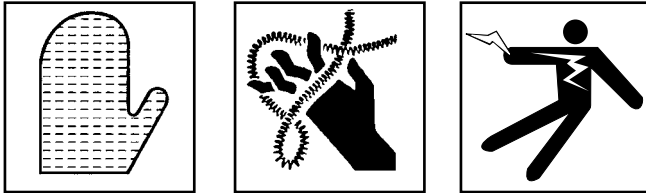

Figure 5 – Cable Adapter Attachment
- Lift plunger pin on cable adapter and depress clutch handle on machine to allow cable adapter to slip into drilled hole (Figure 5). Be sure plunger has locked into machine.